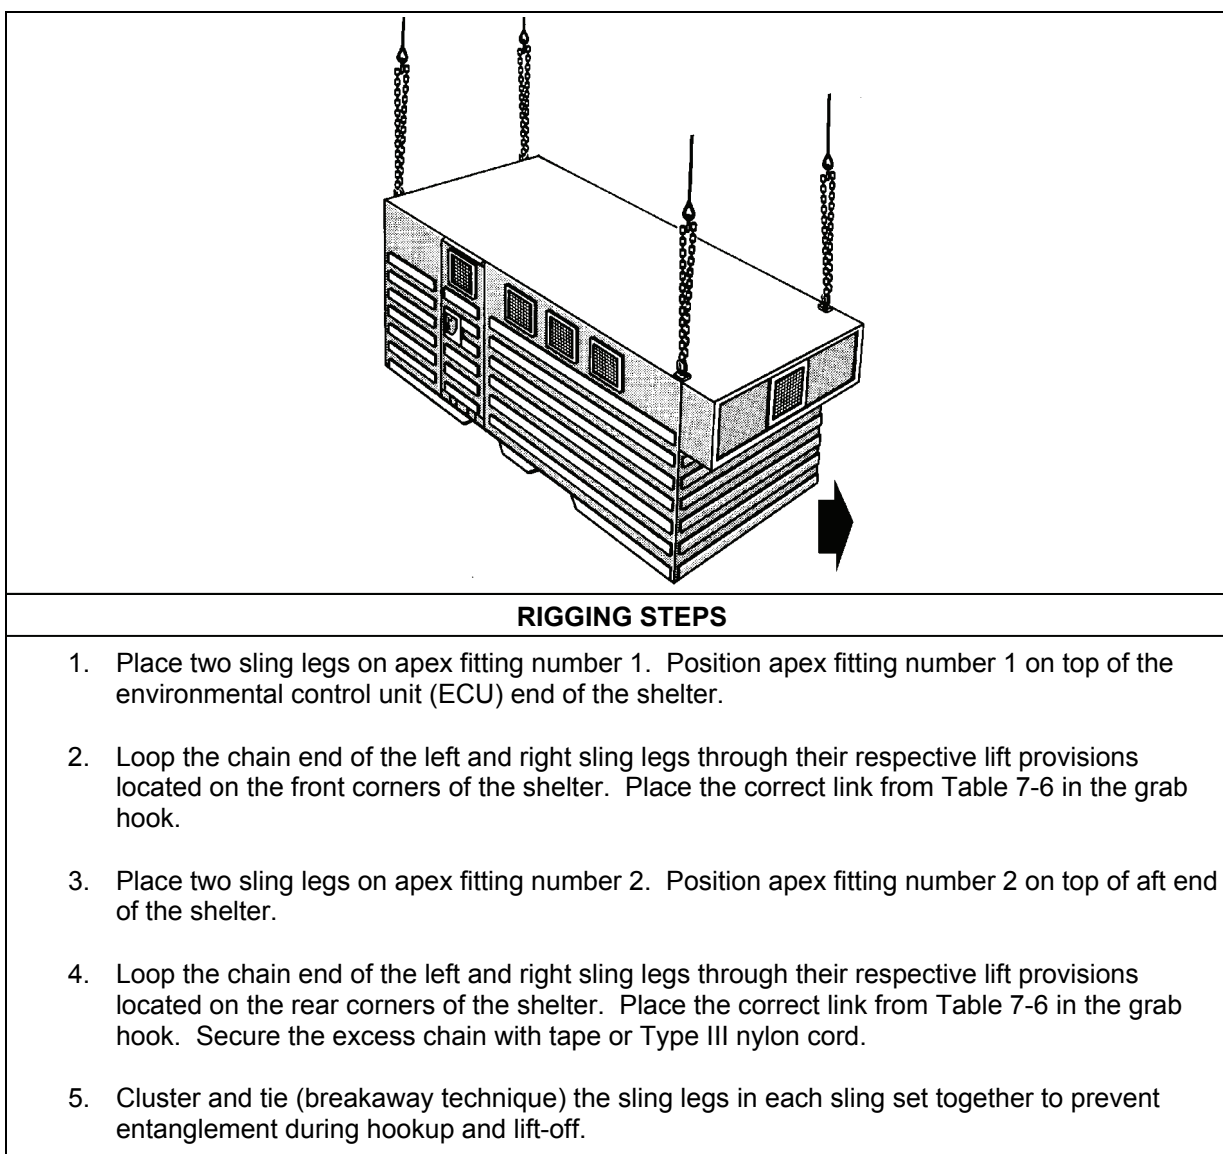

Figure 7-6. Platoon Support Van/Maintenance Center, M32
- **Rigging.** Rig the load according to the steps in Figure 7-6.